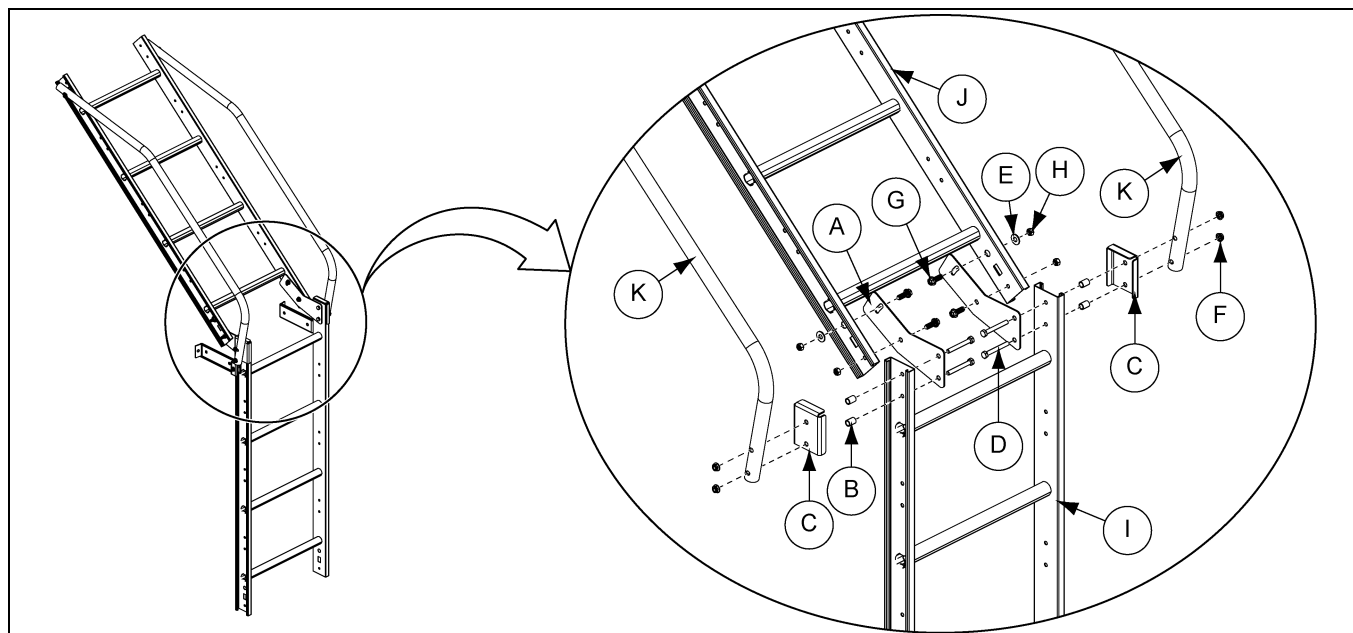

Figure 8B
1. Check the sidewall ladder (I) to make sure the ladder rung dimples face upward.
2. Attach the 30°/40° ladder connector plate (A) to the inside of the sidewall ladder (I).
3. Add the spacer washers (B) between the sidewall ladder (I) and handrail mount (C).
4. Place the handrail mount (C) and handrail (K) to the outside of the sidewall ladder (I) and connect everything together with 5/16" bolts (D) and 5/16" nuts (F).
5. Once the sidewall ladder (I) is assembled, attach the roof ladder (J) to the other end of the connector brackets (A) using 5/16" flange bolts (G), 5/16" washers (E) and 5/16" hex nuts (H). (See Figure 8B.)